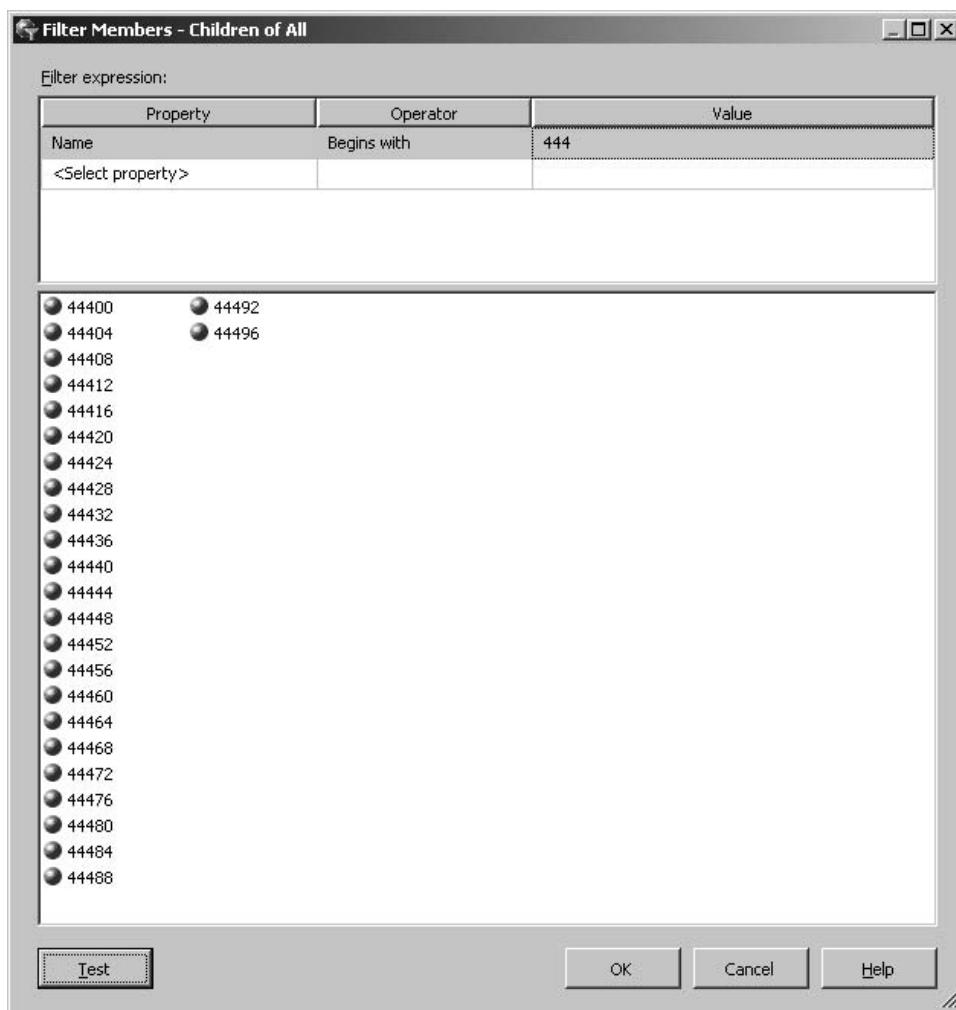

Figure 14-8 The Filter Members dialog box
34. Click Test. The Filter Members dialog box appears, as shown in Figure 14-8.